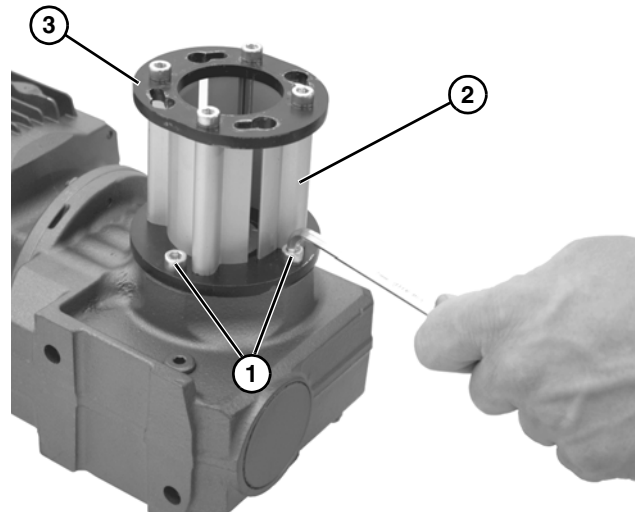

Figure 13
5. Remove the four (4) gearmotor coupling guard screws (Figure 13, item 1) and remove the gearmotor coupling guard (Figure 13, item 2) and mounting ring (Figure 13, item 3).
- Install gearmotor coupling guard (**Figure 13, item 2**) and mounting ring (**Figure 13, item 3**) to gearmotor, and tighten screws (**Figure 13, item 1**) to 110 in-lb (12 N-m).